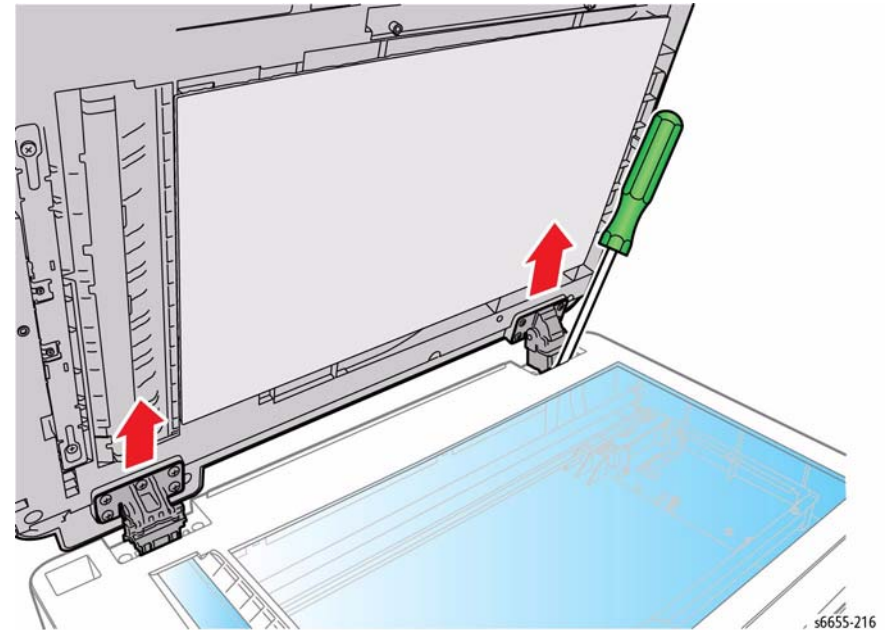
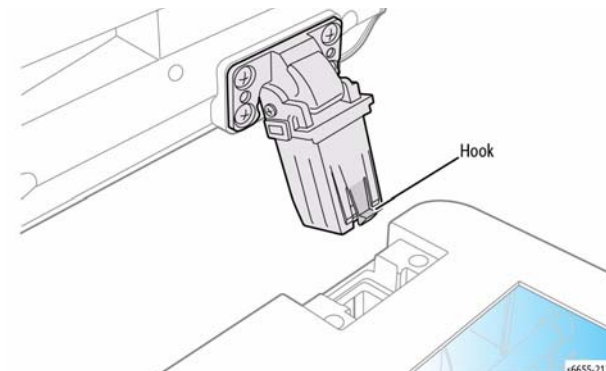

Figure 2 Remove the DADF from the Scanner
Figure 3 Release Hook on Right Hinge Assembly
8. Lift the DADF to expose the hinges. Referring to Figure 2, use a small, flat-bladed screwdriver to release the hook of the Right Hinge Assembly (shown in Figure 3) and remove the DADF Assembly from the Scanner (IIT) Assembly.